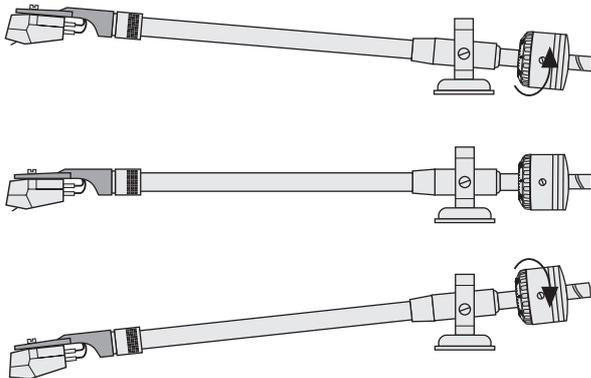

Fig. 6 Tone arm balance
5. Lead the tone arm with the left hand to the side so that the stylus does not hit against the turntable platter. With the right hand turn the counterweight so that the tone arm remains exactly in a horizontal position and does not move upwards or downwards (Fig. 6).